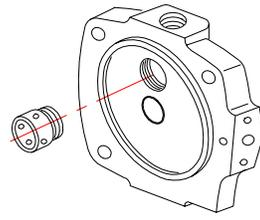

Fig. 27
- f) Remove the oil pump relief valve from the pump base (Fig. 27).